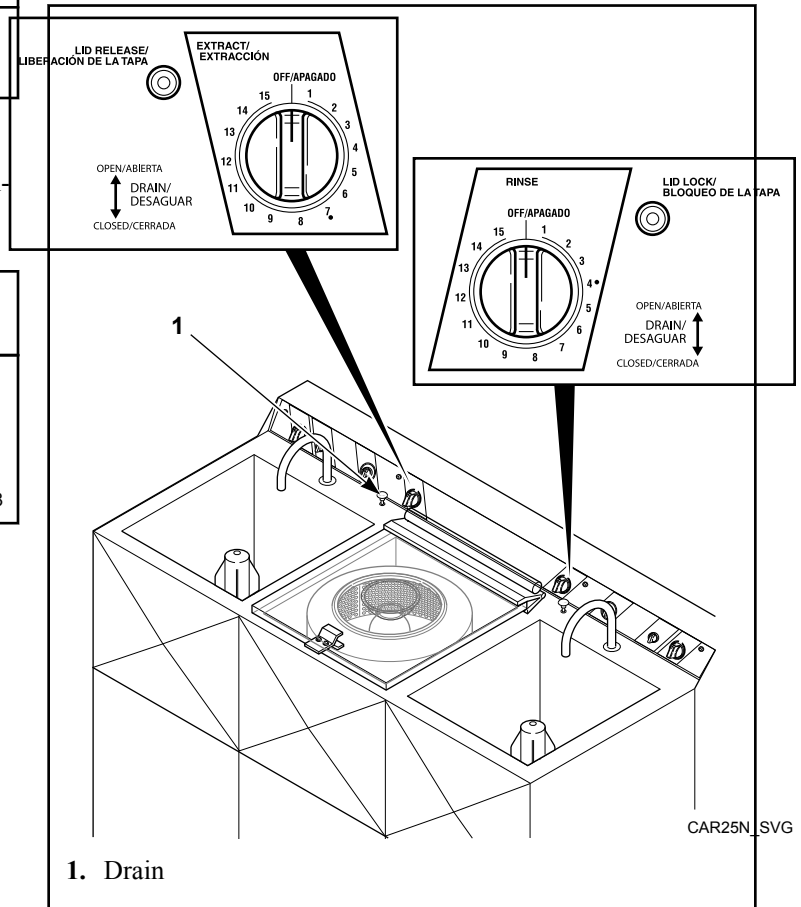

Figure 16
- Set extract timer and rinse timer to desired cycle times. Refer to *Figure 16*.
11. When cycle is complete, wait until basket stops, then press LID RELEASE button to open lid. Refer to *Figure 16*.